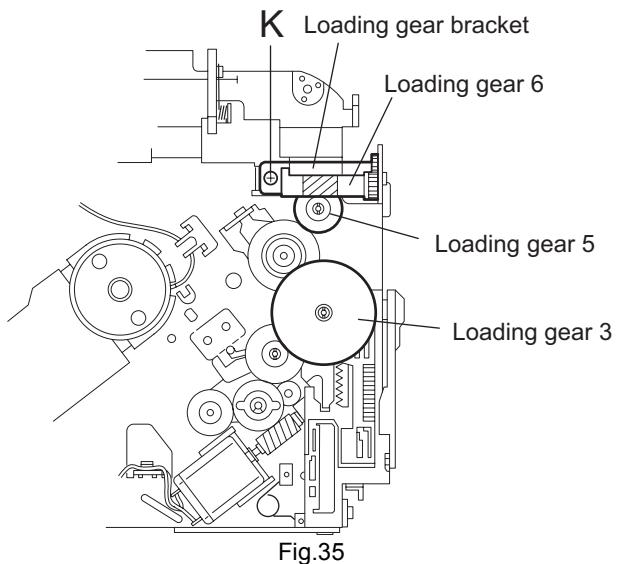
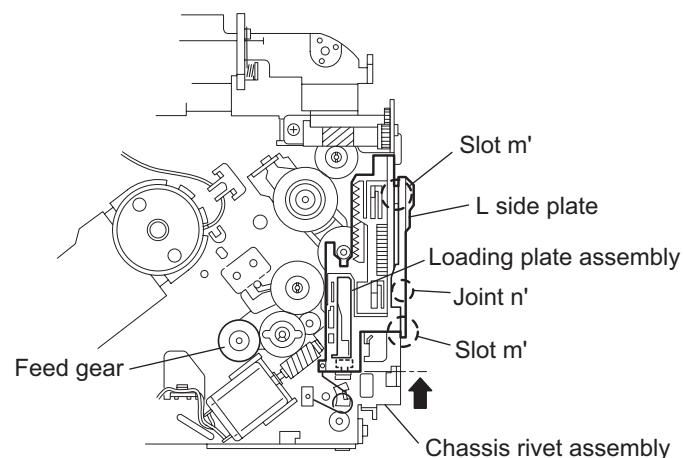
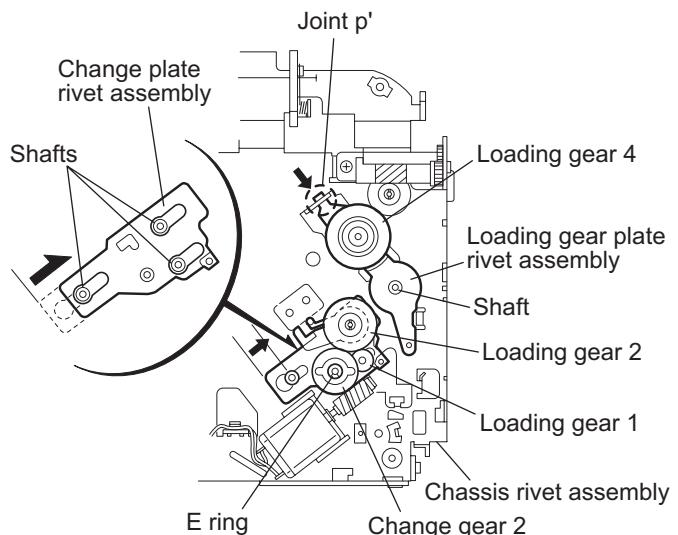

Fig.35
Fig.37
Fig.38
(See Figs.35 and 36)
(See Figs.37 to 40)
- Pull out the loading gear 3. (See Fig.35.)
- (1) Pull out the feed gear.
- (2) Move the loading plate assembly in the direction of the arrow to release the L side plate from the two slots m' of the chassis rivet assembly. (See Fig.37.)
- (3) Detach the loading plate assembly upward from the chassis rivet assembly while releasing the joint n'. Remove the slide hook and loading plate spring from the loading plate assembly.
- (4) Pull out the loading gear 2 and remove the change lock lever.
- (5) Remove the E ring and washer attaching the change gear 2.
- (6) The change gear 2, change gear spring and adjusting washer come off.
- (7) Remove the loading gear 1.
- (8) Move the change plate rivet assembly in the direction of the arrow to release from the three shafts of the chassis rivet assembly upward. (See Fig.38.)
- (9) Detach the loading gear plate rivet assembly from the shaft of the chassis rivet assembly upward while releasing the joint p'. (See Figs.38 and 40.)
- (10) Pull out the loading gear 4.